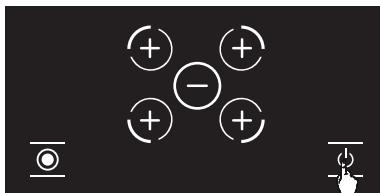

Figure 15
1. You can turn off the hob by pressing the button **⏻**. (See Fig. 15)